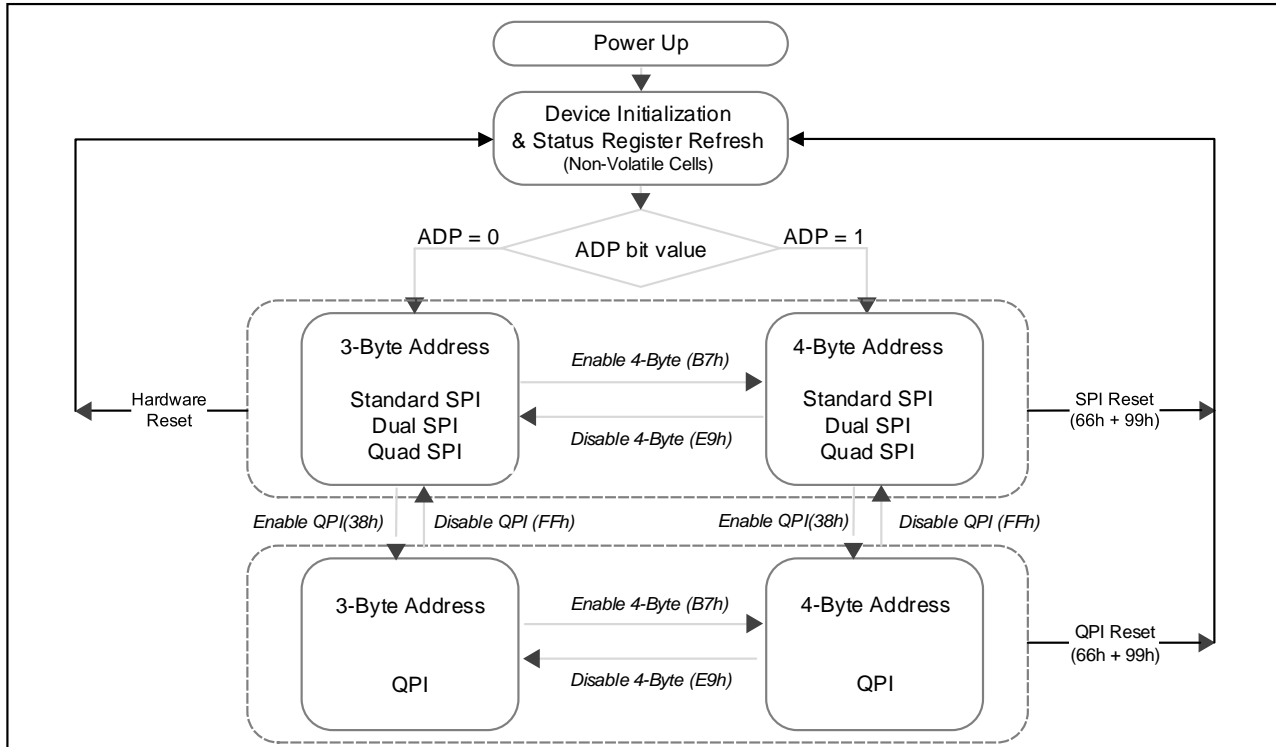

Figure 3. XM25QU512C Serial Flash Memory Operation Diagram
The XM25QU512C supports Quad Peripheral Interface (QPI) operations only when the device is switched from Standard/Dual/Quad SPI mode to QPI mode using the “Enter QPI (38h)” instruction. The typical SPI protocol requires that the byte-long instruction code being shifted into the device only via DI pin in eight serial clocks. The QPI mode utilizes all four IO pins to input the instruction code, thus only two serial clocks are required. This can significantly reduce the SPI instruction overhead and improve system performance in an XIP environment. Standard/Dual/Quad SPI mode and QPI mode are exclusive. Only one mode can be active at any given time. “Enter QPI (38h)” and “Exit QPI (FFh)” instructions are used to switch between these two modes. Upon power-up or after a software reset using “Reset (99h)” instruction, the default state of the device is Standard/Dual/Quad SPI mode. To enable QPI mode, the non-volatile Quad Enable bit (QE) in Status Register-2 is required to be set. When using QPI instructions, the DI and DO pins become bidirectional IO0 and IO1, and the /WP and /HOLD pins become IO2 and IO3 respectively. See Figure 3 for the device operation modes.